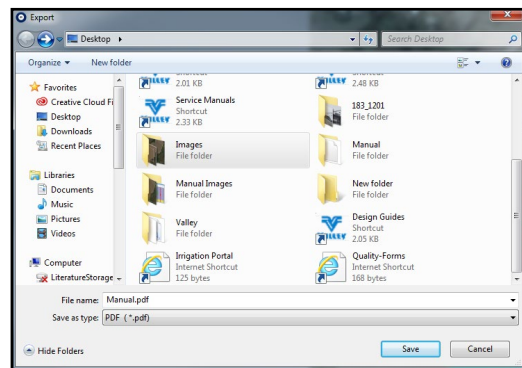

Figure 34-2
2. Locate the folder in which you want to store the CSV file, and click **Save**. See Figure 34-2.